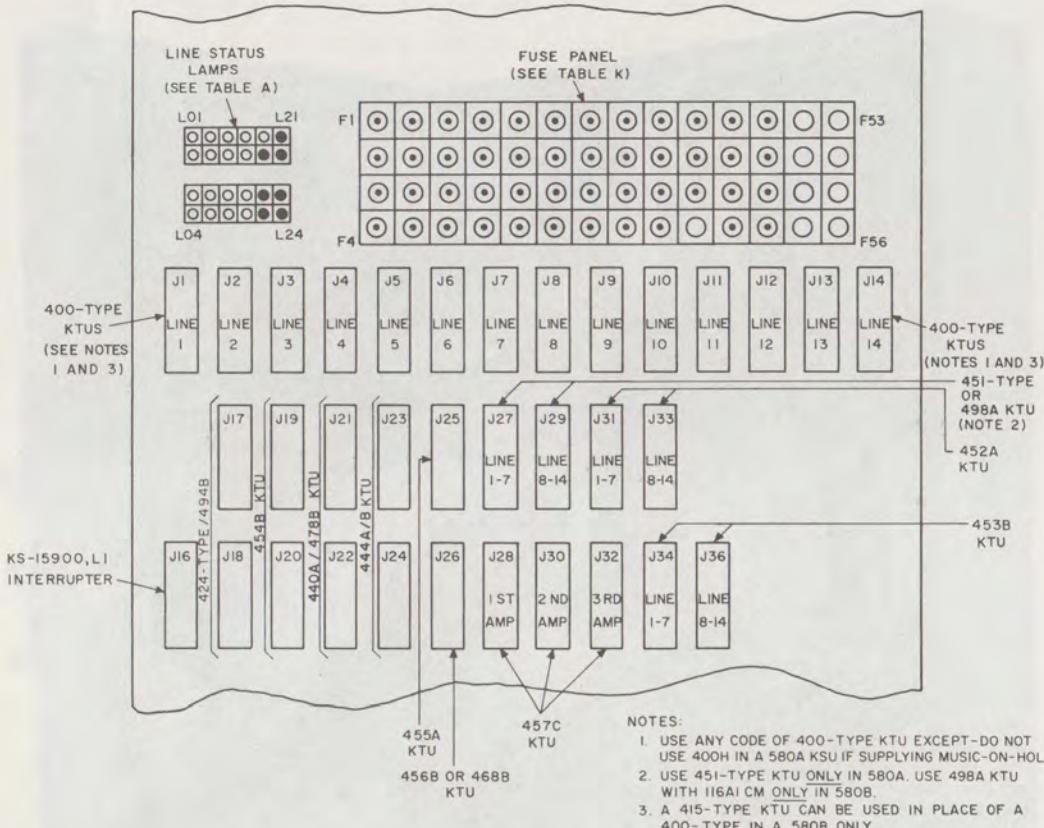

Fig. 3—580-Type KSU, Fuse Panel, Lamp Panel, and KTU Connector Arrangement
- Fuse panel (Fig. 3) which provides power distribution to connectors and station blocks.
- Status lamps (Table A and Fig. 3) to indicate status of CO/PBX and intercom lines.
- 2.13** The lamp panel in the 580-type KSU provides a status lamp for each CO/PBX line and intercom path. The lamps give the same indication of line status (flash, steady, wink) as the line lamps on the telephone sets. See Fig. 3 and Table A.